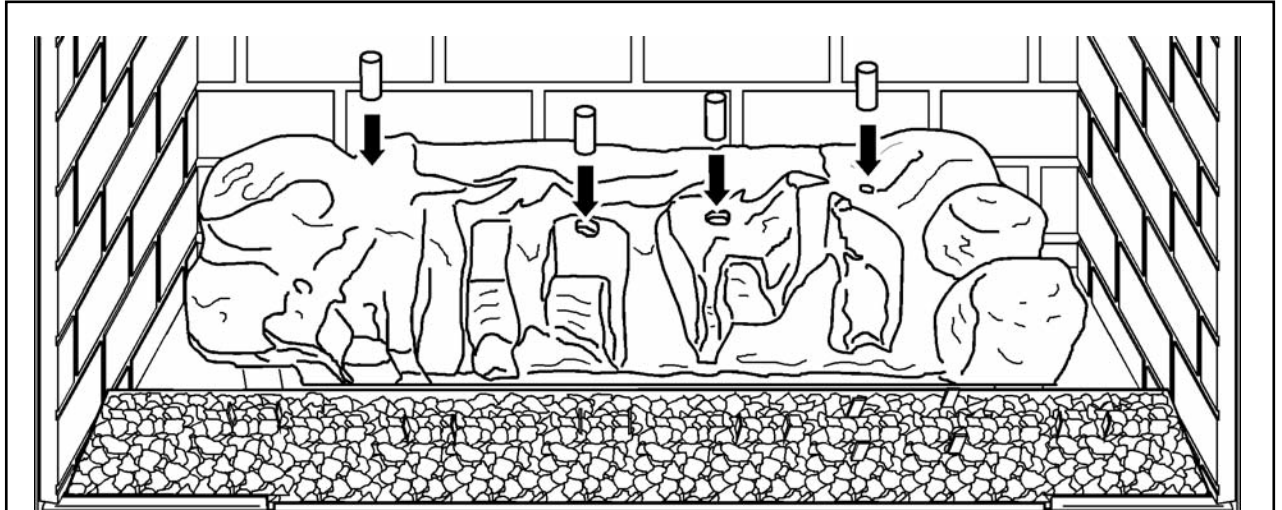

Figure 3. Fitting the ceramic pegs.
3. Supplied with the fuel effect are four ceramic pegs. Drop these into the holes in the fuel effect base as in figure 3.